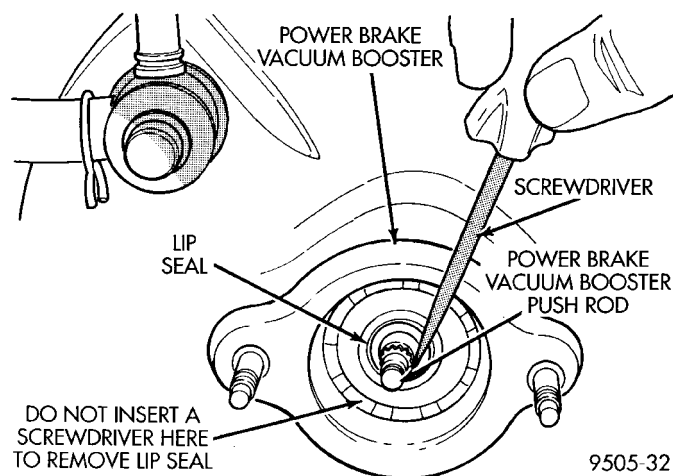

Fig. 116 Vacuum Seal Removal From Power Brake Booster
CAUTION: On vehicles equipped with ABS, the master cylinder is used to create the seal for holding vacuum in the power brake vacuum booster. The vacuum seal in the front of the power brake vacuum booster (Fig. 116) **MUST** be replaced whenever the master cylinder is removed from the power brake vacuum booster.
(7) If vehicle is equipped with ABS, remove vacuum seal (Fig. 116) located in the front of the power brake vacuum booster. Vacuum seal is removed by **carefully** inserting a small screw driver between the push rod of the power brake vacuum booster and vacuum seal (Fig. 116) and prying seal out of power